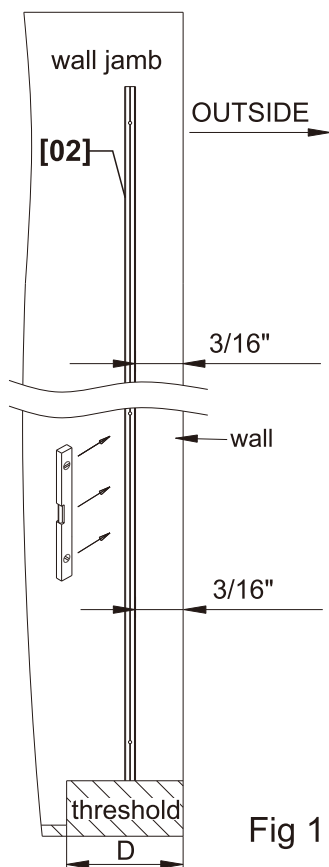
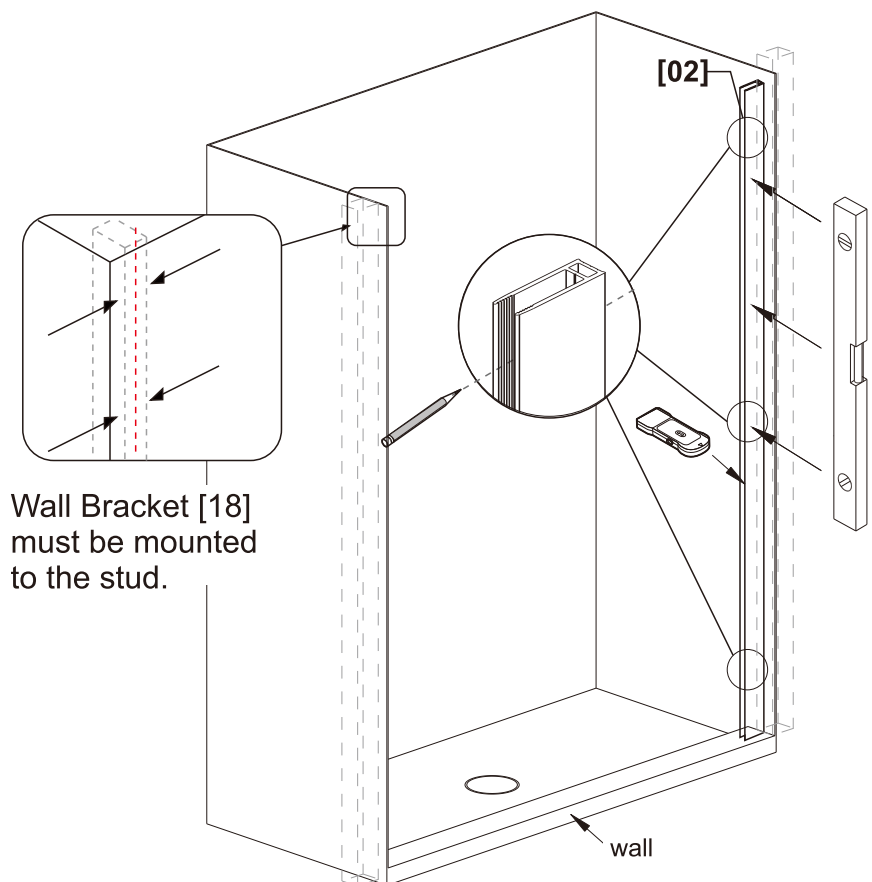

Fig 1
Fig 2
- This model requires a minimum 2-3/16" (55mm) of flat level threshold space for installation. (Dimension "D" of Fig 2.)
- This shower door must be mounted to a stud. Minimum threshold space is required. **IMPORTANT:** Using a stud finder, ensure the wall intended to hold the door has a stud at the installation point. A stud in this location must be identified to support the support bar and the wall jamb in order to proceed with the installation. If there is no stud in the shown area, we recommend employing a qualified contractor to install one. (Fig 2)
1. Measure in 3/16" (5mm) minimum from the outside of the wall to the profile of the **Wall Jamb [02]** or measure in 3/16" + (A") if you want to install the shower door behind the outside of the wall (Fig 1, Fig 2). A" is the distance between outermost surface of shower door and the outside of the wall.